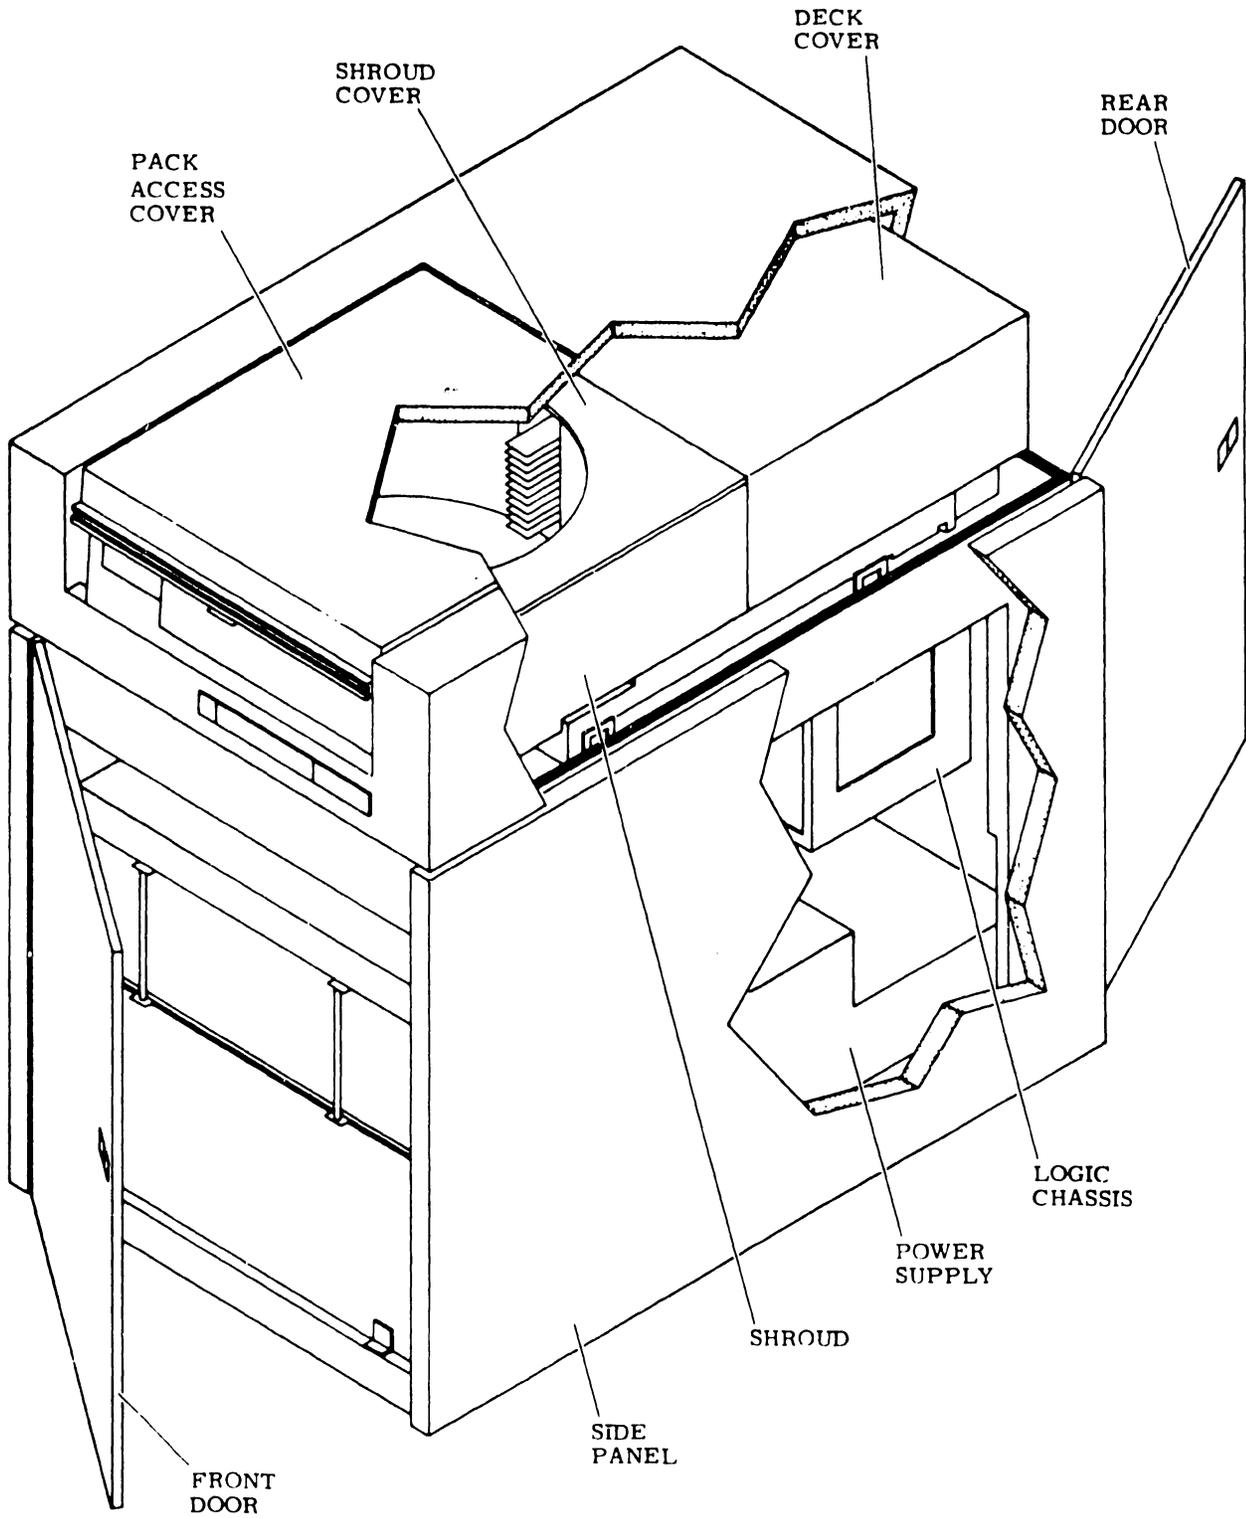

FIGURE 4-15 288 MEGABYTE DISK DRIVE
- D. Verify that the control panel is firmly seated in the shroud (Figure 4-15).